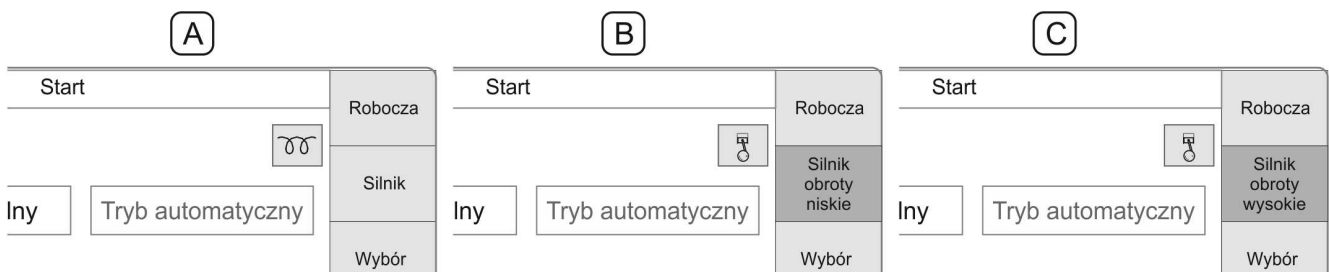

FIGURE 4.21 Starting the engine
- On "Start" home page of the control panel (FIGURE 4.21), start the engine by pressing and holding "Engine" push-button for 3 seconds (heating of glow plugs is switched on and the engine should start and run at a low speed – this is signalled by corresponding indicator lights).